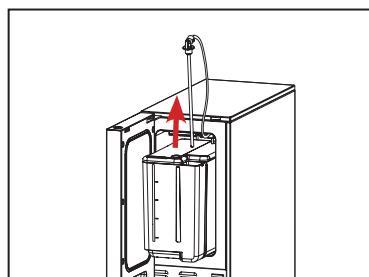

Fig.2
2. Pull the milk suction tube out of the tank lid (See Fig.2).